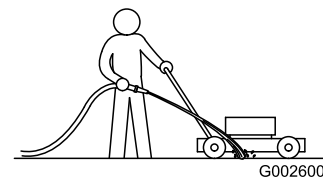

Figure 37
1. With the engine running on a flat paved surface, spray a stream of water in front of the **right** rear wheel (Figure 37).